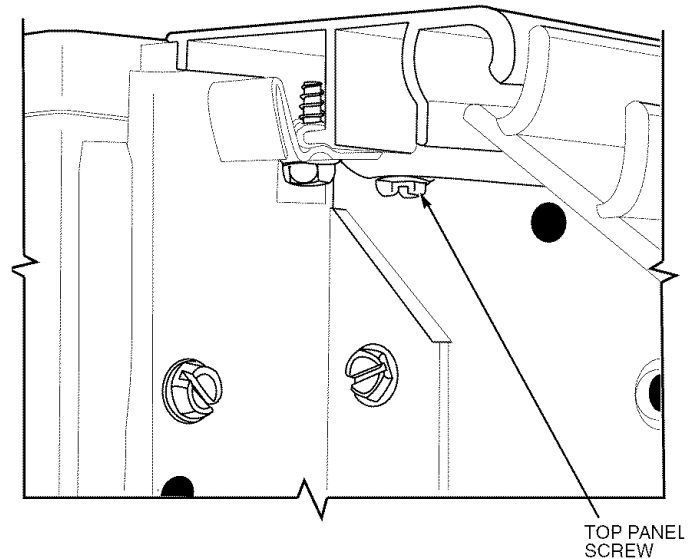

FIGURE 25 — ALUMINUM TOP PANEL
4. Remove aluminum top panel (one screw each side). See Figure 25. On left-hand side, remove the screw closest to the partition.